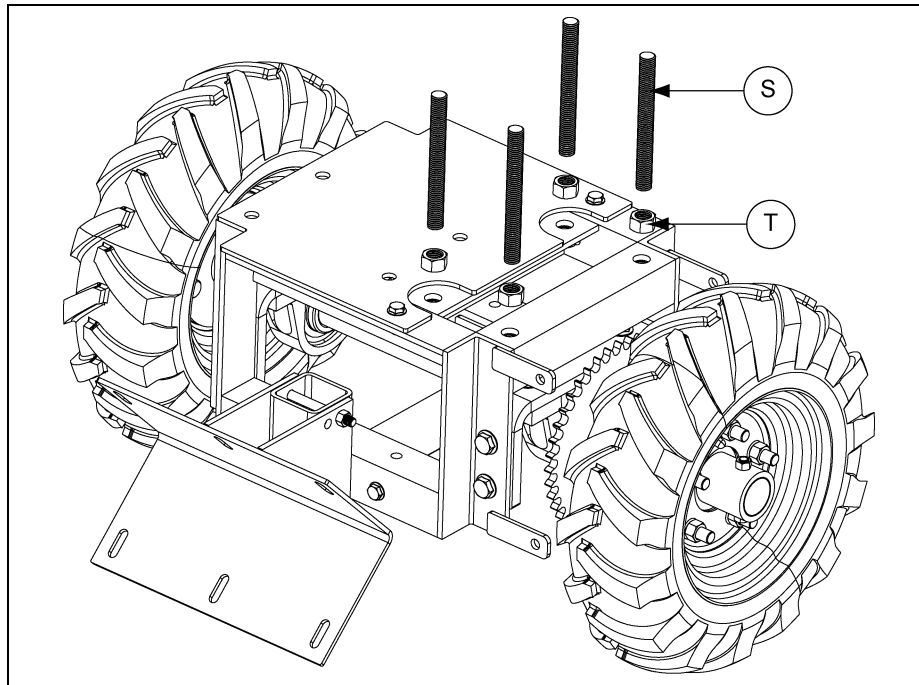

Figure 4T
11. Bolt the four (4) 5/8"-11 x 6" threaded rods (S) to the tractor frame using one 5/8"-11 hex nut (T) for each rod. (See Figure 4T.)